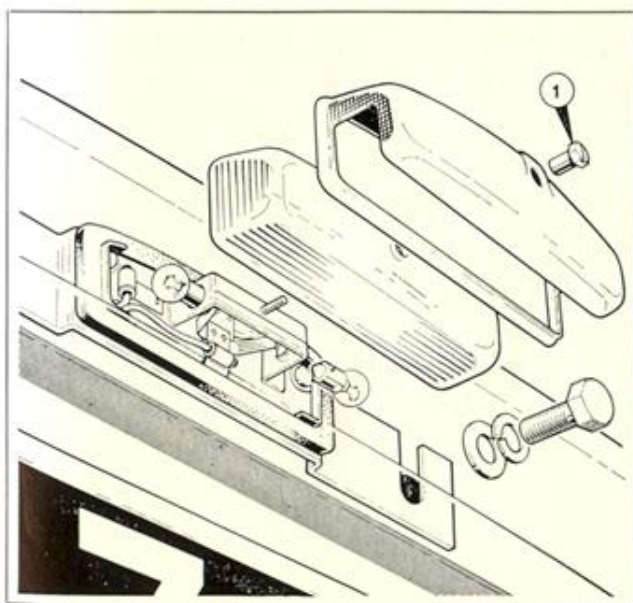

Figure 42 Number plate lamp bulbs
The cover is secured by a single screw (1) which, when removed allows access to the bulbs for replacement purposes. See Figure 42.